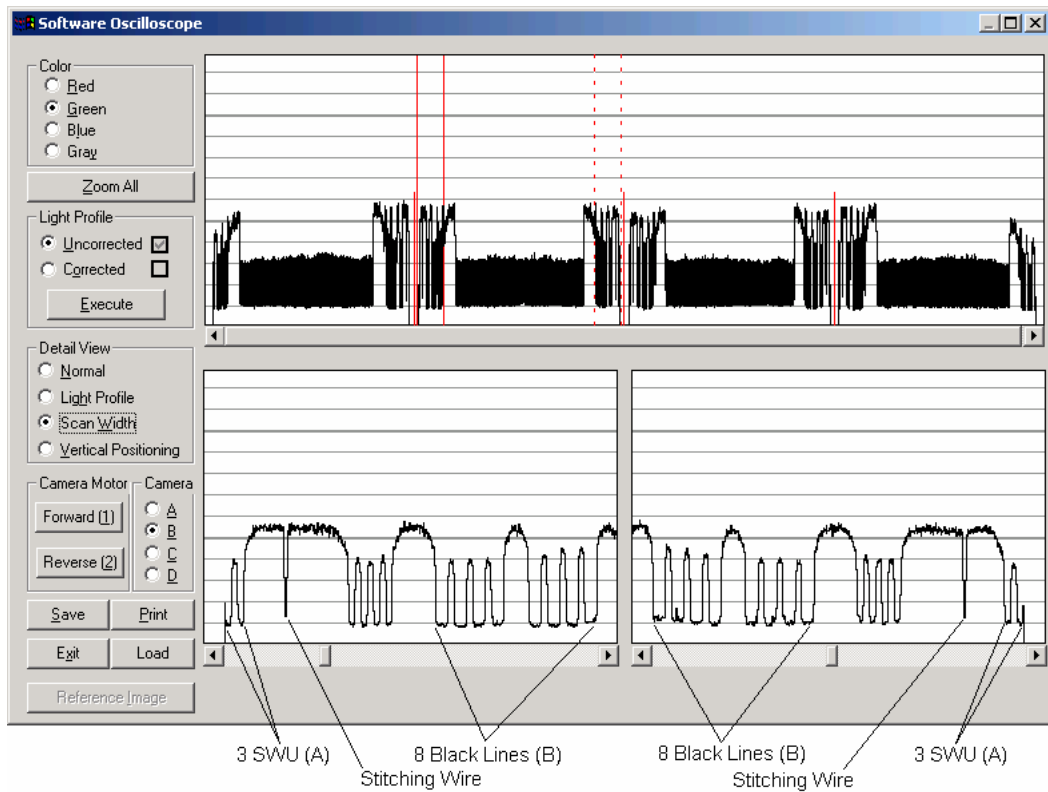

Fig. 4-27 MAGNUM XL 54, Scan-Width, Camera B
- Fig. 4-27 MAGNUM XL 54, Scan-Width (B), page 106